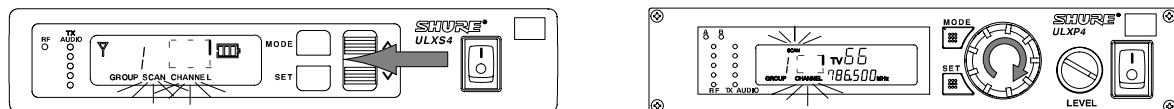

FIGURE 10
- Press the ^ or v buttons (ULXS4) or rotate the control knob (ULXP4) clockwise one quarter turn. The next open Channel number will appear on the display, as shown in Figure 10.